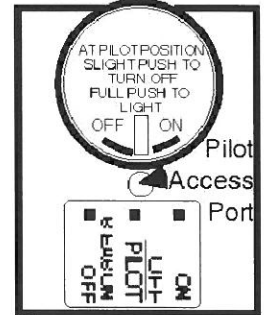

Figure 10
1. Slightly push knob and turn to **"SEASON OFF"**. **Figure 10**
3. Slightly push knob and turn to **"PILOT/OFF"**. **Figure 10**